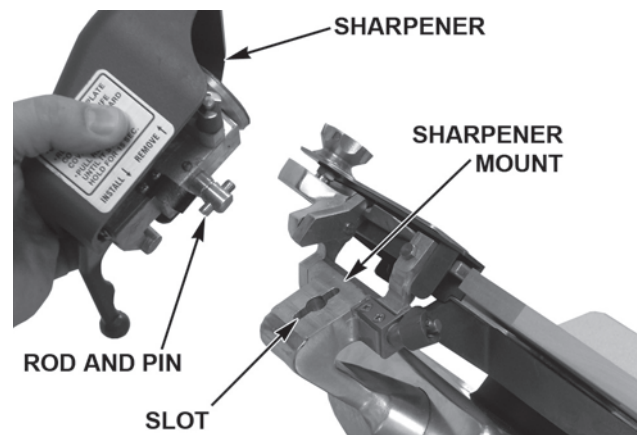

Fig. 28
- Install the Sharpener by lowering it back onto the Sharpener Mount so the Rod and Pin on the bottom of the Sharpener fit the Slot in the Sharpener Mount (Fig. 28).